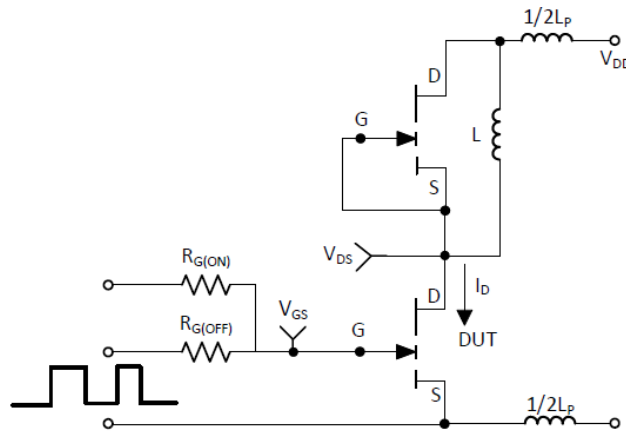

Figure 17: Switching Loss Test Circuit
(7) L_p is the switching circuit parasitic inductance.
(8) See Figure 17 for switching loss test circuit.